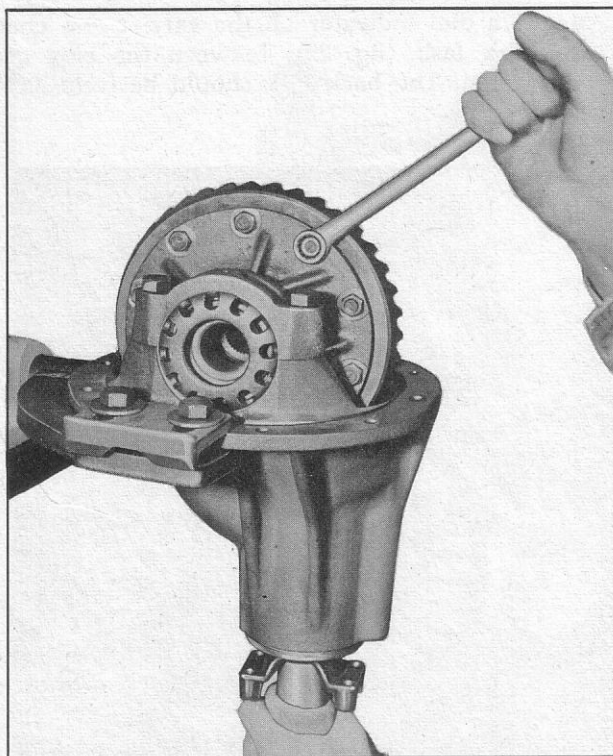

Fig. 30—Developing Tooth Pattern
4. Using a 3/16" box wrench on the ring gear bolts, rock the ring gear back and forth, shifting bolt heads to develop a contact pattern on the teeth of the ring gear (fig. 30).